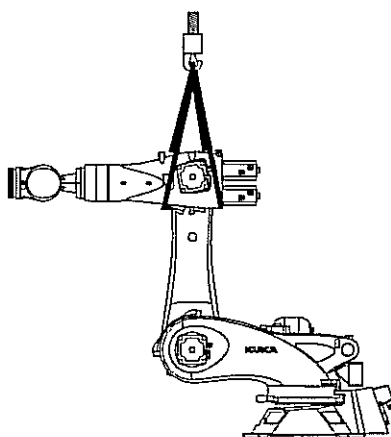

Fig. 11-1: Securing the link arm
1. Move the link arm into a vertical position and secure it using a crane (>>> Fig. 11-1).